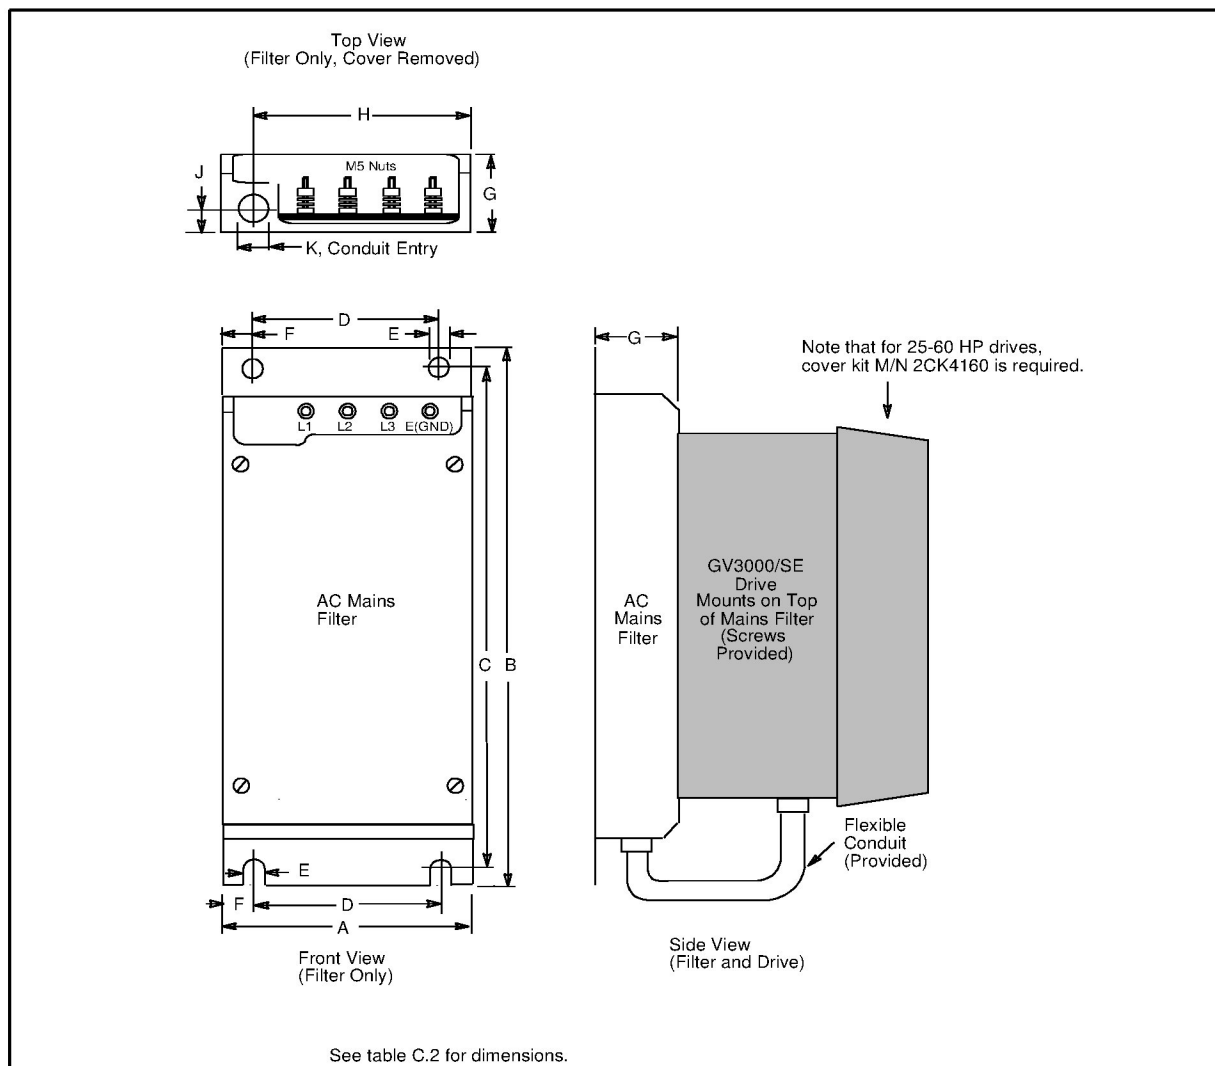

Figure C.1 – AC Mains Filter Dimensions
- Attach the GV3000/SE drive to the AC Mains Filter. See figure C.1. No other type of mounting is permitted. The required mounting hardware is supplied with the filter.
- Attach the GV3000/SE drive/AC Mains Filter assembly to a panel or wall. See figure C.1 and table C.2 for mounting dimensions. The panel/wall surface does not have to be conductive, although it is preferable. The hardware for mounting the drive/filter assembly to the panel/wall must be supplied by the user.
Connect AC input power to the filter by first removing the filter's cover and then connecting the AC input power leads to the terminals at the top of the filter. See figure C.1. The AC input power leads should have lugs attached. The filter-GV3000/SE cabinet has a conduit opening to secure the AC input power conduit.